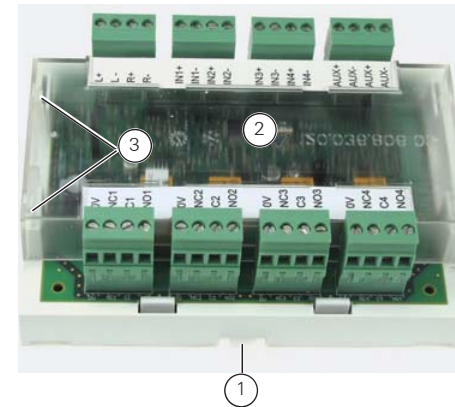

Fig. 1: FC410QIO Quad Input/Output Module
Figure 1 shows the FC410QIO Quad Input/Output Module, part number 555.800.771.
To remove the clear plastic cover, release each of the four locking tabs in turn (see item 3 in Figure 1). Use a screwdriver to press the tab inwards, while pulling upwards on the cover.